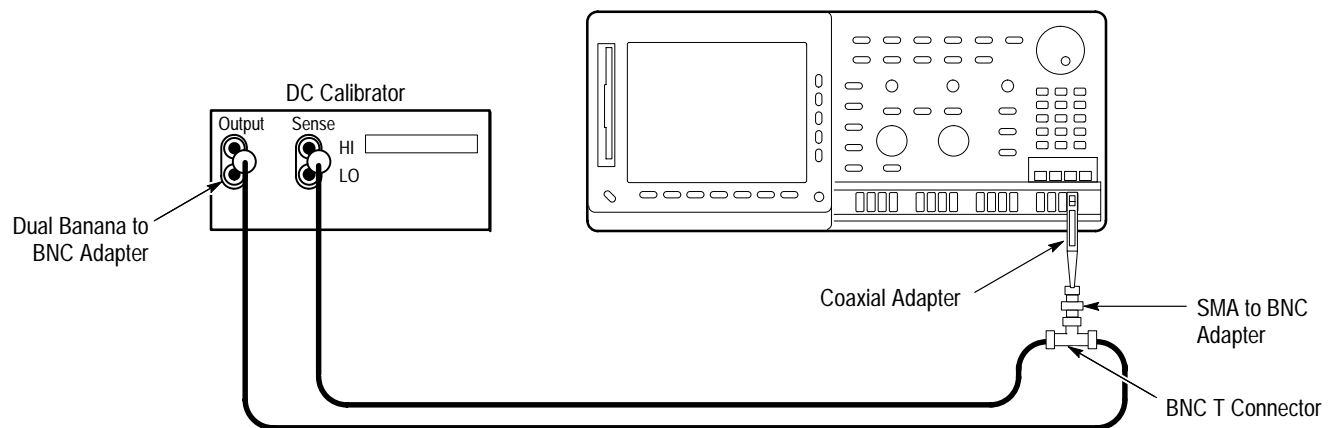

Figure 4–16: Test Hookup for Trigger Threshold Check
- b. Connect the output of the DC calibration generator through a dual-banana connector followed by a 50 Ω precision coaxial cable to one side of a BNC T connector. (See Figure 4–16)